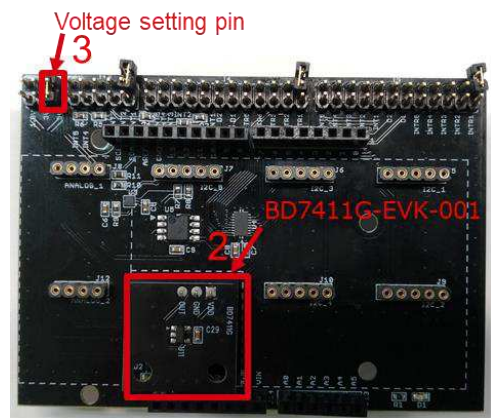

Figure 2. Connection between BD7411G-EVK-001 and the SensorShield
2. Connect BD7411G-EVK-001 to the socket of GPIO area on the SensorShield (Figure 2)
3. Set Voltage of the SensorShield to 5.0V (Figure 2)